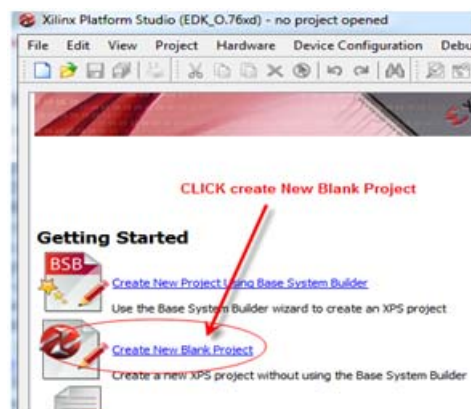

Figure 1-34: Create New Blank Project
4. When the Device Manager window appears, expand **Ports (COM & LPT)** to find the USB to UART COM port number, as shown in Figure 1-34.